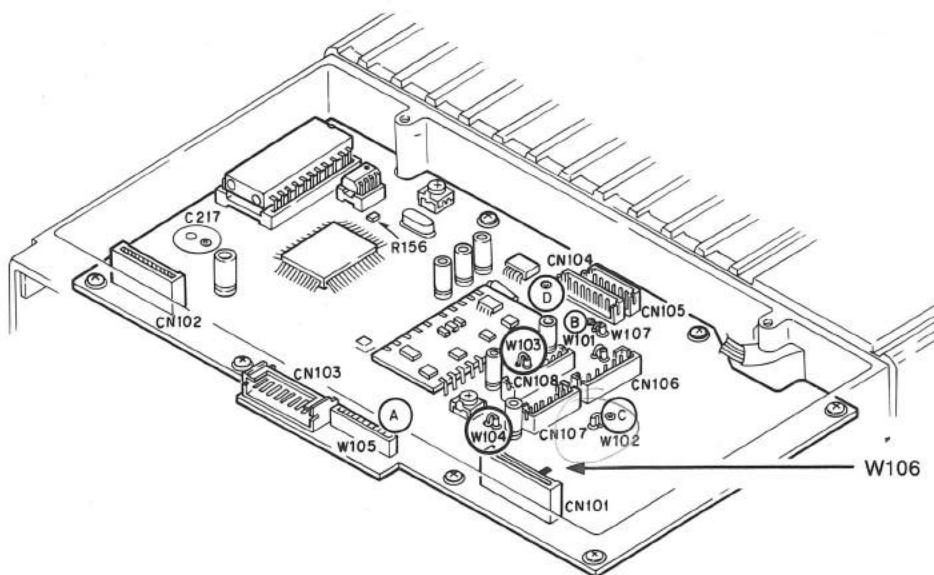

Fig. 1-5 Control unit (X57- A/4)
4. Install the KRK-4DB A/2 on radio 1 using the four flat-headed screws (N32-3006-46) (①).
5. Short W106 on the control unit by soldering. (Fig. 1-5)